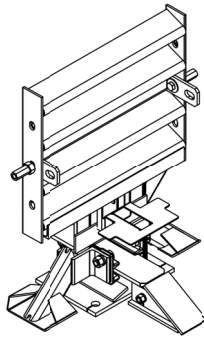

Figure 36
- 6) Attach chain to Pullout Brackets on first Diaphragm (Figure 36). Attach both ends of chain to a heavy vehicle (such as a 1 ton pickup).